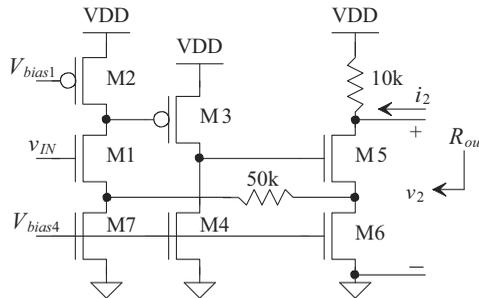

Figure 31.61 Series-series feedback amplifier with source-follower output buffer.
- 31.19** Using the series-series feedback amplifier shown in Fig. 31.61, (a) identify the feedback topology, (b) verify that negative feedback is employed, (c) draw the closed-loop small-signal model, and (d) find the values of $R_{\beta i}$ and $R_{\beta o}$.
- 31.20** Using the series-series amplifier shown in Fig. 31.61 and the results from problem 31.19, (a) draw the small-signal open-loop model for the circuit and (b) calculate the open-loop parameters, A_{OL} , β , R_p and R_o and (c) the closed-loop parameters, A_{CL} , R_{in} , and R_{out} .